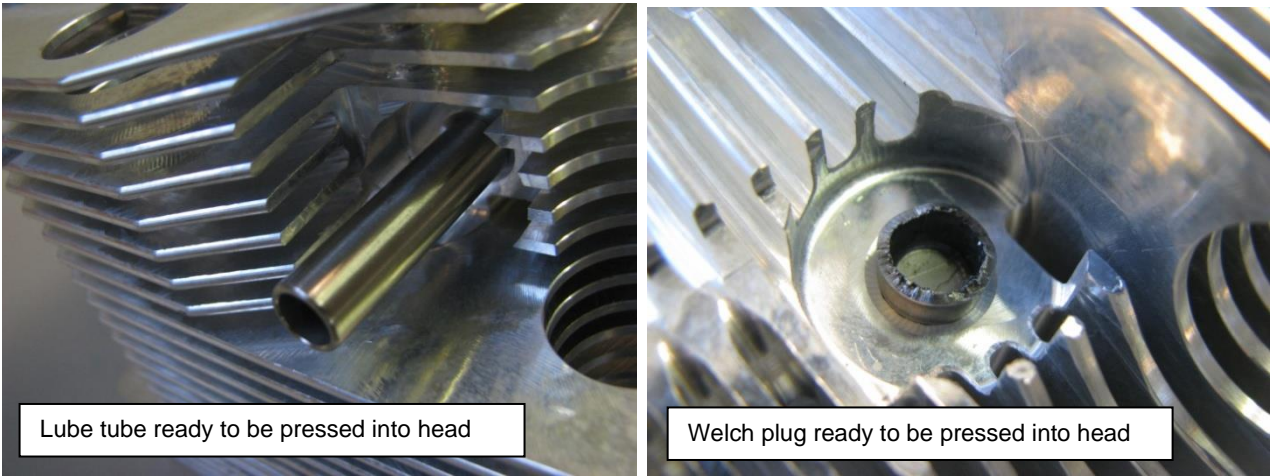

Figure 149 – Cylinder Head Welch Plug & Lube Tube Installation.
- If new heads are being fitted to an engine then in most cases some small Welch plugs must be fitted to the head. For engines using the external oil feed tube for the rocker gear small tubes must also be fitted to the head. Both of these parts are pressed into the cylinder head (Figure 149).
- For engines using the hollow pushrod oil feed the oil ports in the side of the heads are not used. In that case 2 Welch plugs (Figure 149, right) are fitted to the head – one on each side – to blank them off.